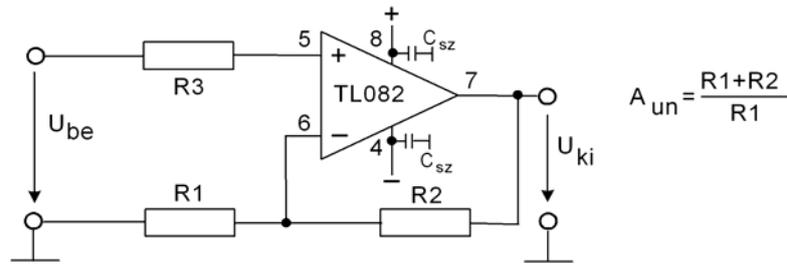

Figure 4-2. Basic non-inverting amplifier circuit
- 1.2. Student A: using the breadboard and the parts obtained from the tutor, build the basic non-inverting amplifier circuit (See fig. 4-2.). The power supply should be ± 15 V.